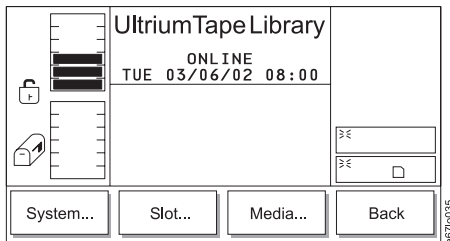

Figure 4-36. Library Submenu
2. Press the button below the **Library** softkey. The Library Submenu displays (see Figure 4-36).